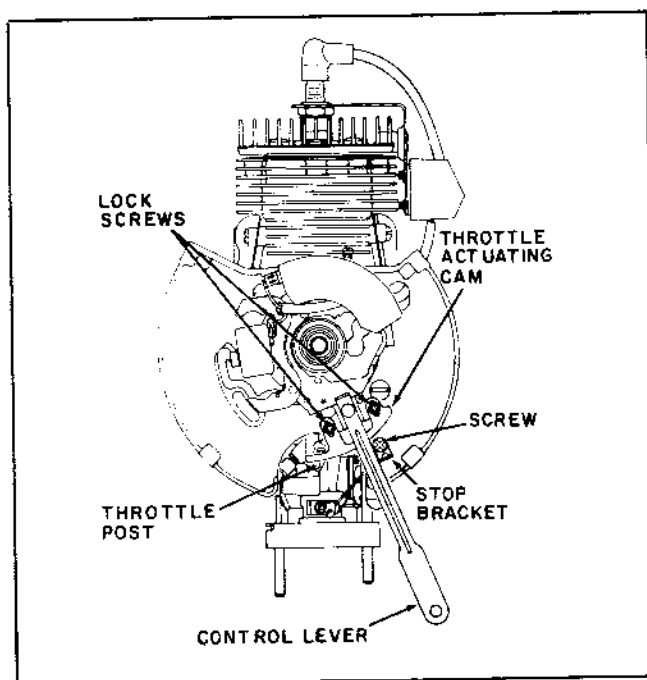

Figure 3-12. High Speed Stop Bracket & Cam Adjustment
- 5.(a) Adjust the stop bracket (Fig. 3-12) to prevent the control lever from moving any further counterclockwise. Tighten the stop bracket screw securely.